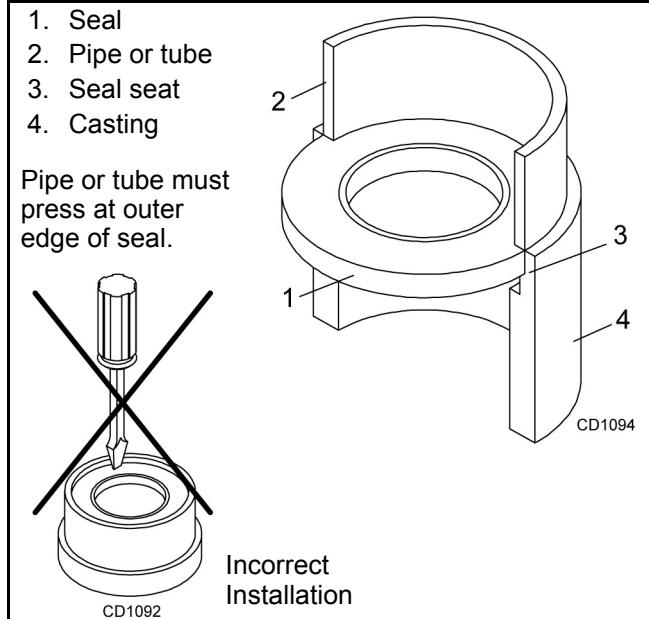

Figure 14. Seal Installation
2. Remove vent plug (27), Figure 14, and siphon gear lube from housing through this opening.
3. If the leak occurred at either end of horizontal shaft, remove oil cap (11) and/or oil seal (1). Replace with new one (see Seal Replacement, page 27).